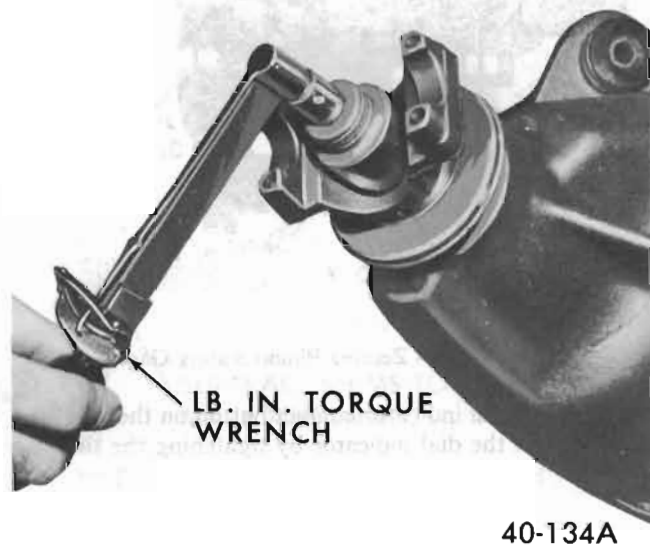

Figure 40-136 - Checking Pinion Preload
6. Check preload by using a pound inch torque wrench as shown in Figure 40-136.